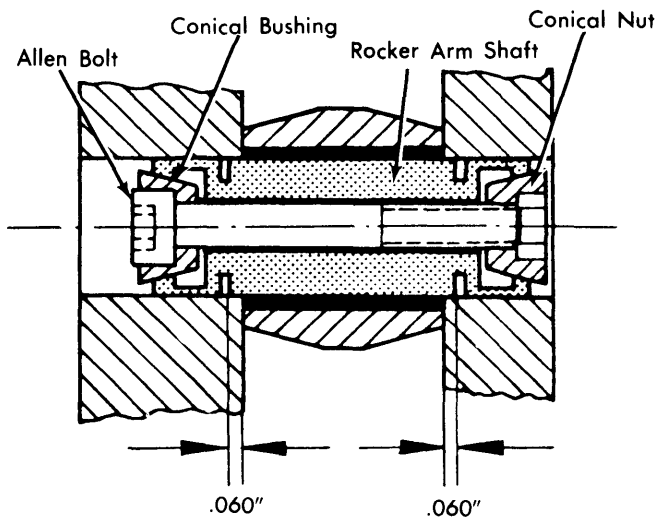

Fig. 2 Cross Sectional View of Rocker Arm Shaft Assembly
4) Install rocker arms and shafts. Install rocker arm shaft with approximately .060" (1.52 mm) clearance between shaft grooves and mounting face, see Fig. 2. Tighten Allen bolts to 13 ft. lbs. (1.8 mkg), using suitable tools (P 210 & P 211).
- 3) Install rocker arm shaft. Center rocker arm shaft in housing, see Fig. 2. Tighten rocker arm Allen bolt.